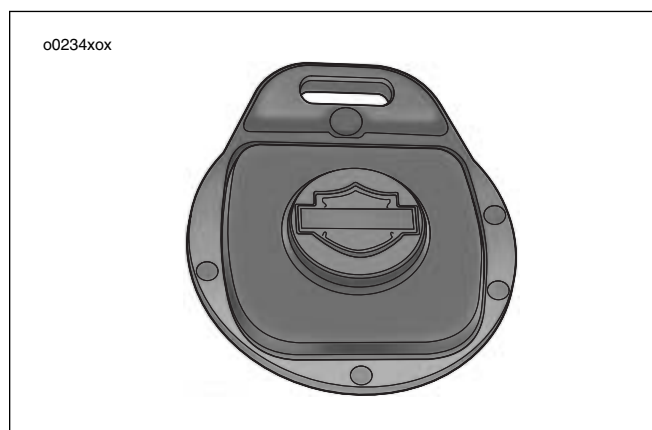

Figure 3-53. Key Fob Assembly
3. See Figure 3-53. Align case and circuit board as shown. Snap case halves together.